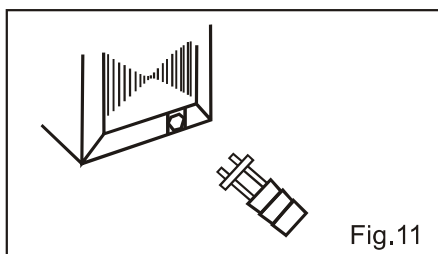

Fig.11
- 4) Install the drain tube connection into the hole provided at the rear of the air conditioner chassis.(Fig.11)